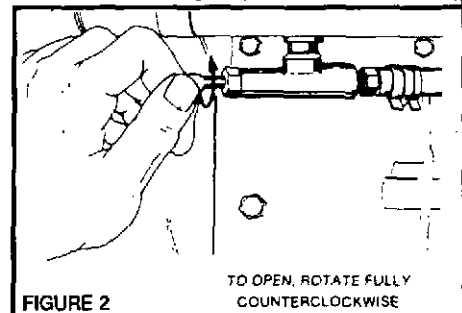

FIGURE 2
2. Fully open the fuel valve (Fig. 2) if the engine is so equipped. It is located under the unit mounted fuel tank of 8, 11 and 16 HP engines (under fuel tank on LV units).
If the switch is released too soon, the engine may continue to run. The engine should be operated at no load for 2 or 3 minutes before stopping the engine to stabilize engine temperatures and insure long engine life. When engine is stopped, close fuel valve (Fig. 2) if engine is so equipped.